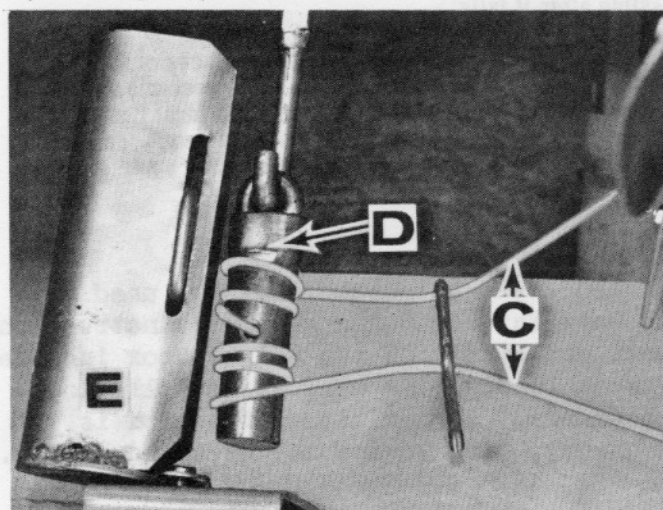

Figure 7. Cable & Tube Operating Suggestions
Cable (C) is wound around tube (D) 2 1/2 turns each way; both ends of cable should be equal length. This will allow equal angle of discharge spout both directions. (see Fig. 7).